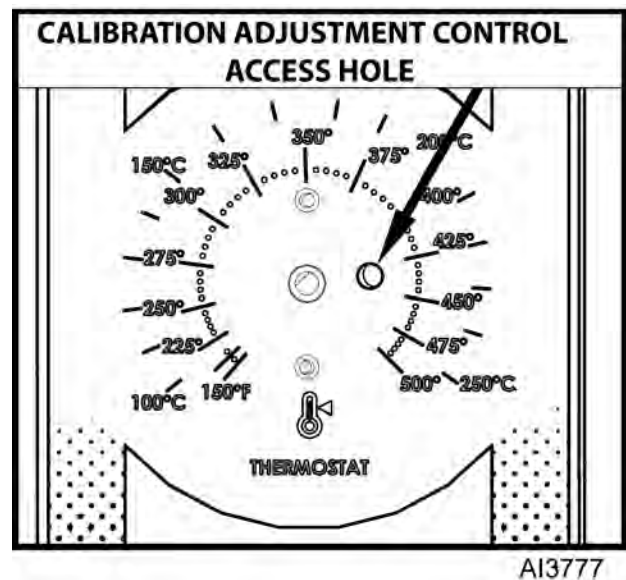

Fig. 56
- 2) Access adjustment potentiometer located at 3 o'clock position (Fig. 56).